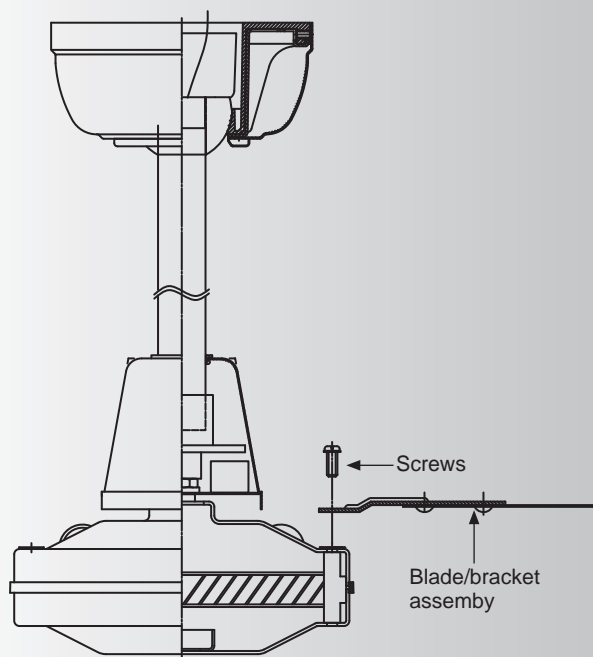

Fig. 14
Step 2. Attach each fan blade/bracket assembly to the motor using the screws provided. (Fig 14)